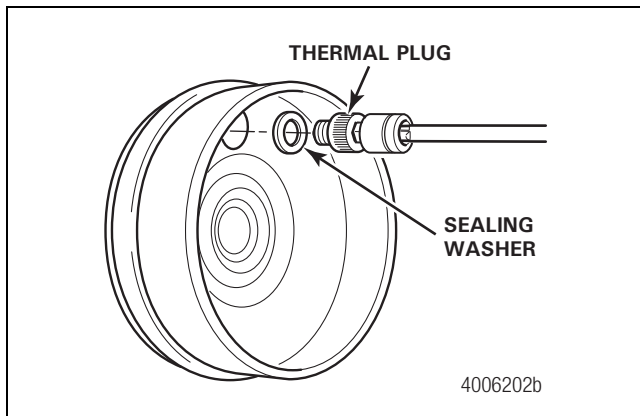

Figure 5.12
1. Remove the activated heat-sensing thermal screw using a 5/32-inch (4 mm) Allen key. Figure 5.12.